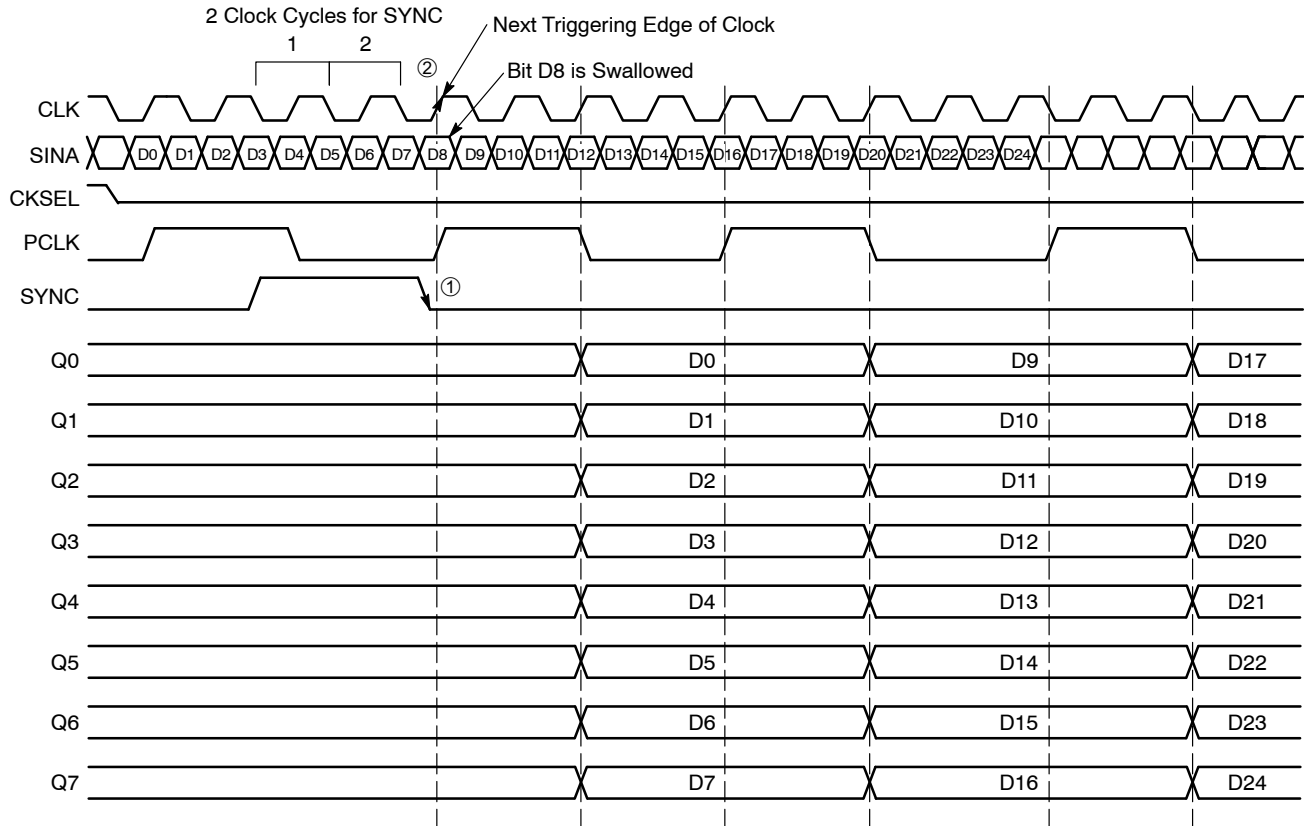

Figure 10. Timing Diagram A. 1:8 Serial to Parallel Conversion with SYNC Pulse at CKSEL LOW
To allow the user to synchronize the output byte data correctly, the start bit for conversion can be moved using the SYNC input pin (pin 2). Asynchronously asserting the SYNC pin will force the internal clock to swallow a clock pulse, effectively shifting a bit from the  $Q_n$  to the  $Q_{n-1}$  output as shown in Figure 10 and Figure 11. For CKSEL LOW, a single pulse applied asynchronously for two consecutive
clock cycles shifts the start bit for conversion from  $Q_n$  to  $Q_{n-1}$ . The bit is swallowed following the two clock cycle pulse width of SYNC① on the next triggering edge of clock② (either on the rising or the falling edge of the clock). Each additional shift requires an additional pulse to be applied to the SYNC pin. (See Figure 10)